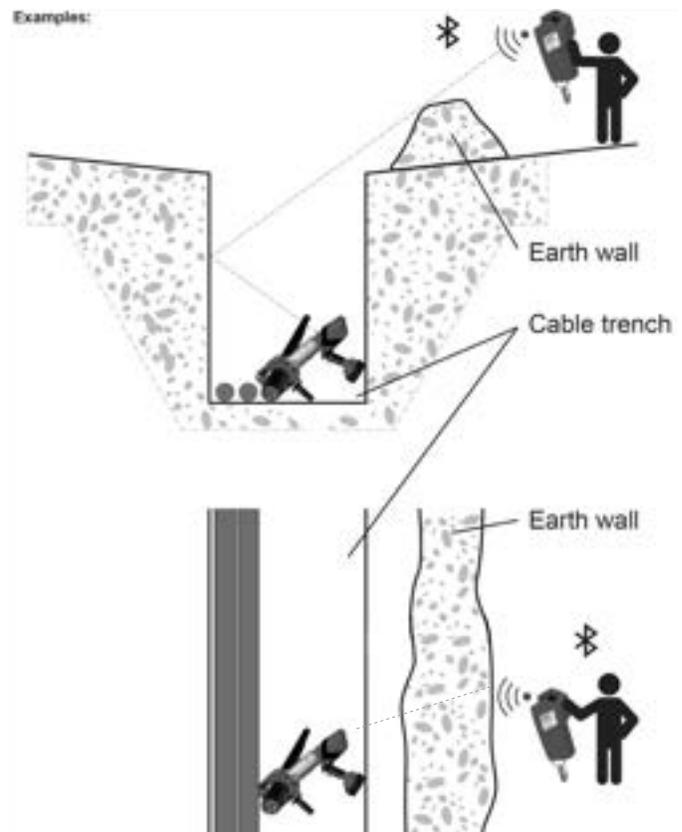

Figure 4
8. If working remotely, identify an appropriate area for operation within range of the remote and outside of the NFPA ARC Flash distance to prevent injury from possible arc flash or whipping cables. The Bluetooth signal can pass through most wall materials if the operator is located behind a barrier or around a corner while operating tool. (Figure 4)
12. Move away from the cutter and to the area identified outside of potential arc flash range. (Figure 4)